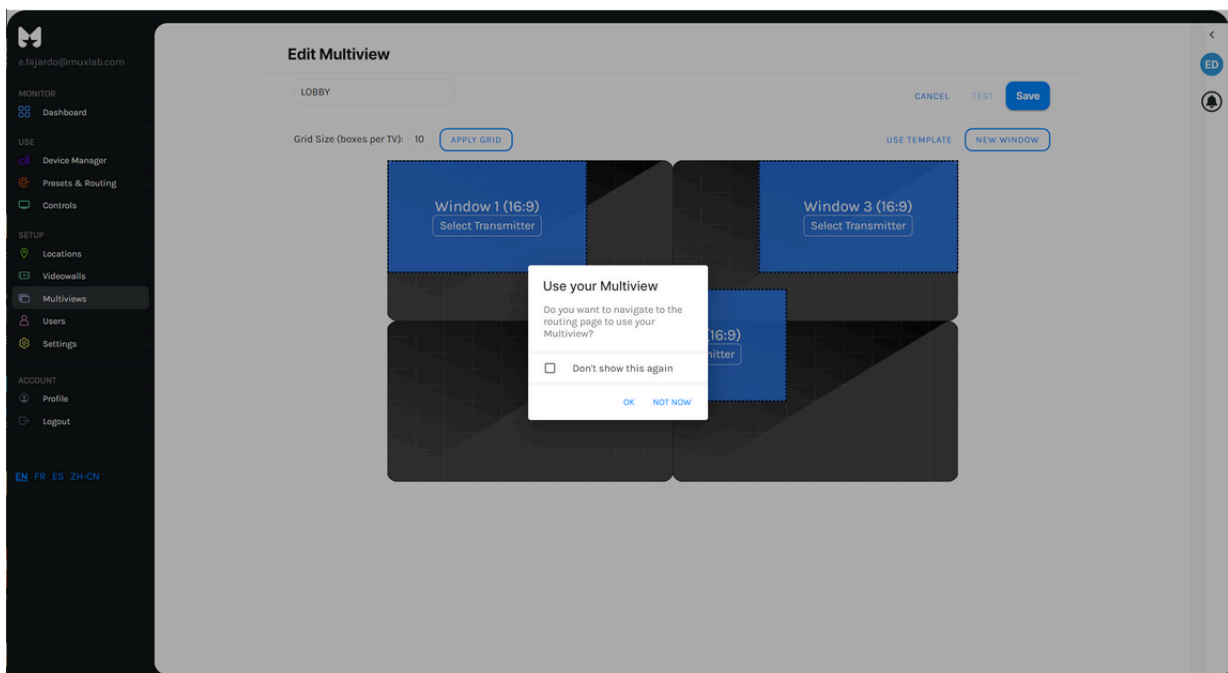

Figure 48
8. Once Multiview layout have been created, click the "Save" button. After clicking the "Save" button, a pop-up window will appear asking the user if they want to open the Presets & Routing page to begin assigning receivers to their Multiview layout or if they want to stay on the Multiviews page. Figure 48